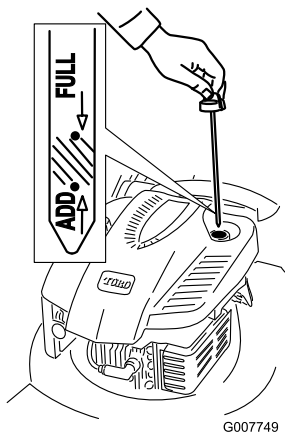

Figure 8
1. Remove the dipstick (Figure 8).
2. Slowly pour oil into the oil fill tube until the oil level reaches the **Full** mark on the dipstick (Figure 8). **Do not overfill.** (Max. fill: 0.59 l, type: SAE 30 detergent oil with an API service classification of SF, SG, SH, SJ, SL, or higher.)
1. Remove the dipstick, wipe it clean, and fully install the dipstick (Figure 8).
2. Remove the dipstick and check the oil level (Figure 8). If the oil level is below the **Add** mark on the dipstick, **slowly** pour oil into the oil fill tube to raise the oil level to the **Full** mark on the dipstick. **Do not overfill.** (Max. fill: 0.59 l, type: SAE 30 detergent oil with an API service classification of SF, SG, SH, SJ, SL, or higher.)